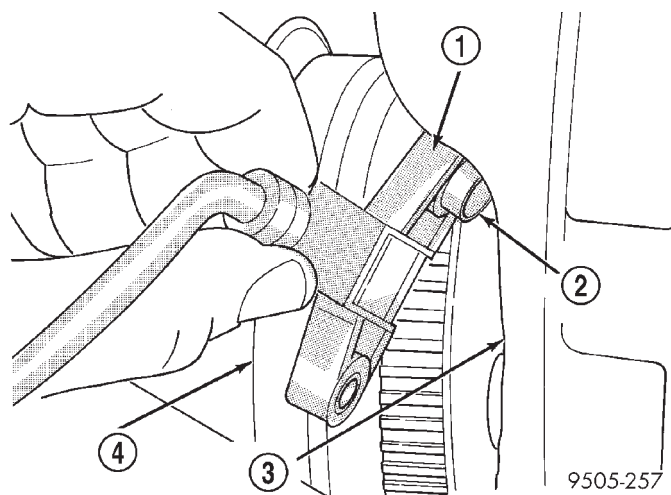

Fig. 45 Installing Speed Sensor Head In Steering Knuckle
(4) Install speed sensor head on steering knuckle (Fig. 45). When installing speed sensor head on steering knuckle, apply a small amount of grease on speed sensor locating pin (Fig. 45). Use Mopar, Multi-Purpose Grease or an equivalent on speed sensor head locating pin. Install the speed sensor head attaching screw and tighten to a torque of 6 N·m (55 in. lbs.).